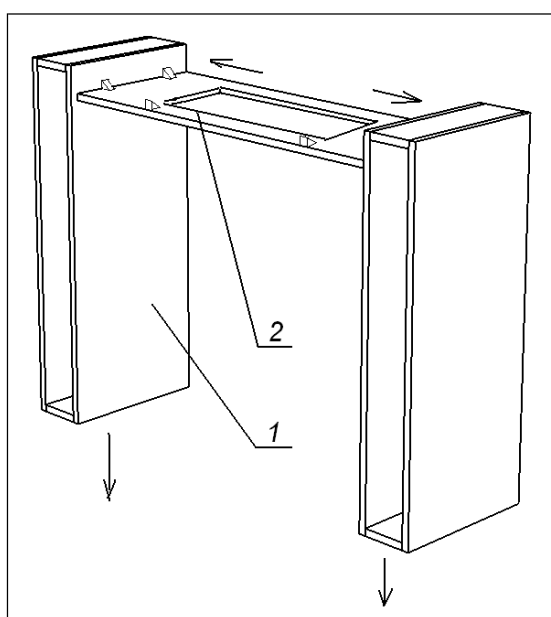

Fig. 47
- cut out a hole for the exhaust mechanism in the horizontal panel (2);
- connect the elements (1) and (2) using wood dowels and plastic mounting angle brackets. Place the assembled structure on the worktop and fix through lower horizontals of the elements (1) using screws 4x35 (Fig. 47)